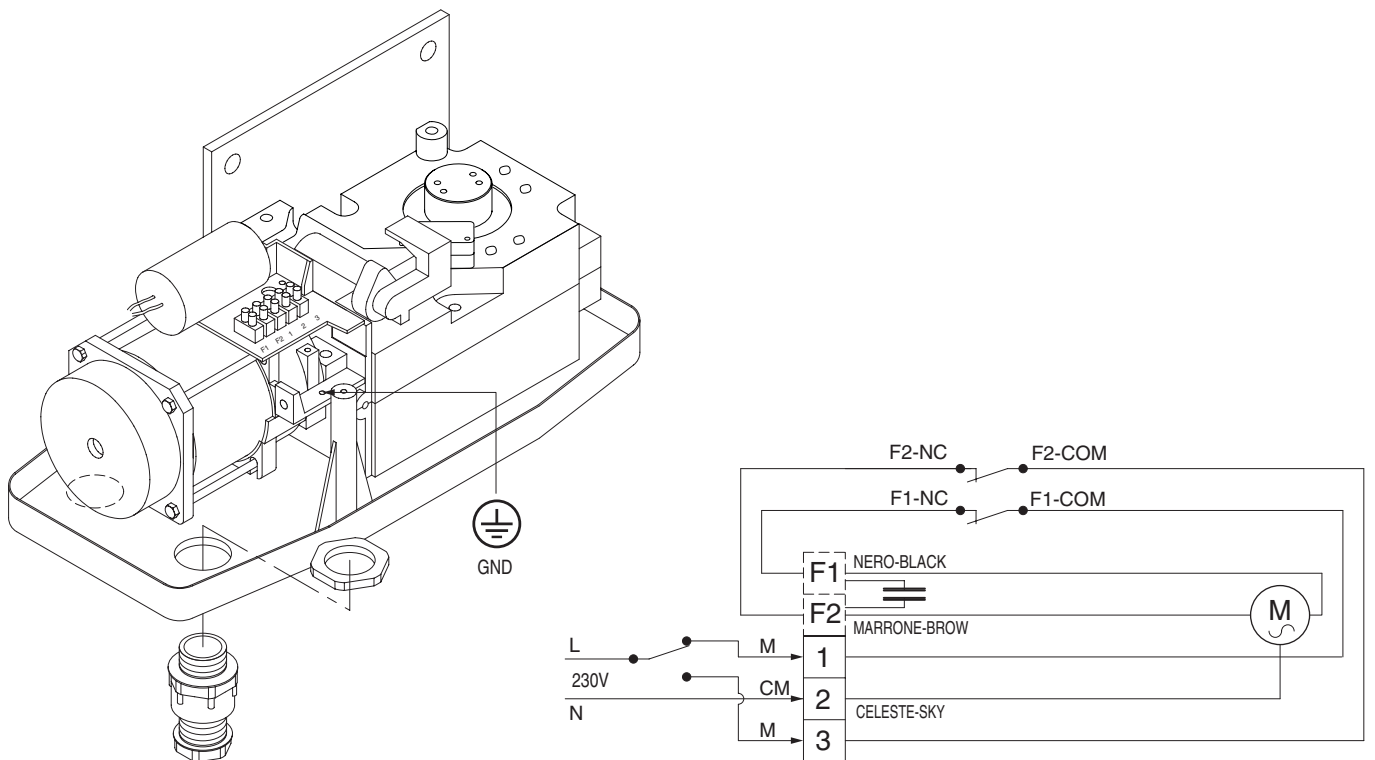
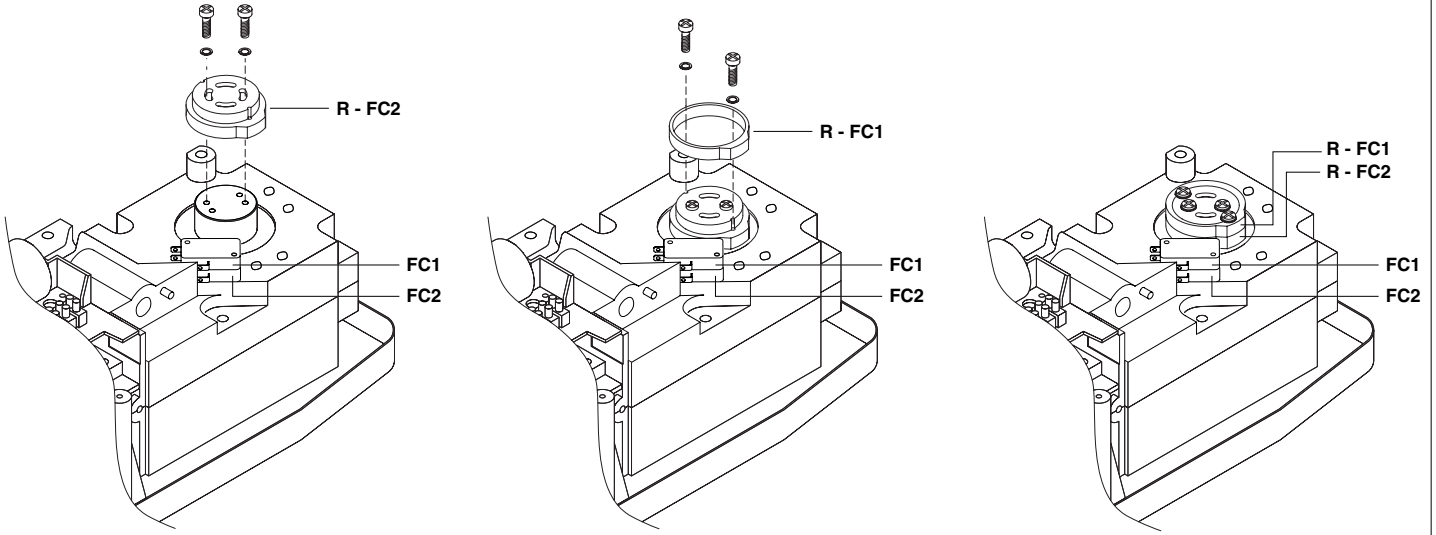

Fig. 11
Fig. 12
- Identify the limit switches following fig.12 for the right-hand controller and following fig.11 for the left-hand controller.
- If the control unit has working time adjustment (TW), this should be adjusted to a value which is slightly higher than the intervention of the controller limit switches.